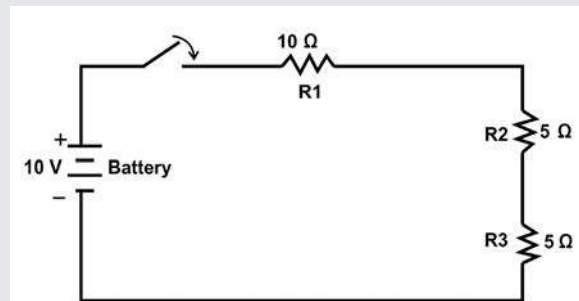

Fig. 2
E. Find the following quantities for the circuit in Fig. 2.